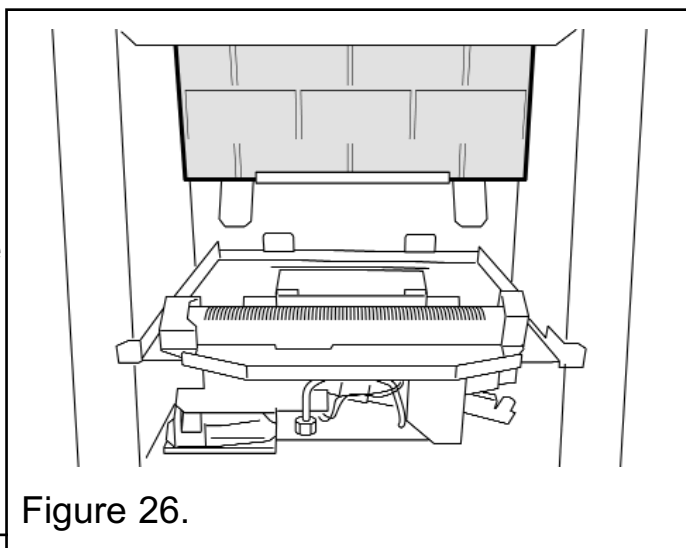

Figure 26.
1. Fit the ceramic rear wall inside the "U" bracket on the back face of the burner compartment. Push the ceramic wall flat against the back face of the burner compartment (See figure 26).